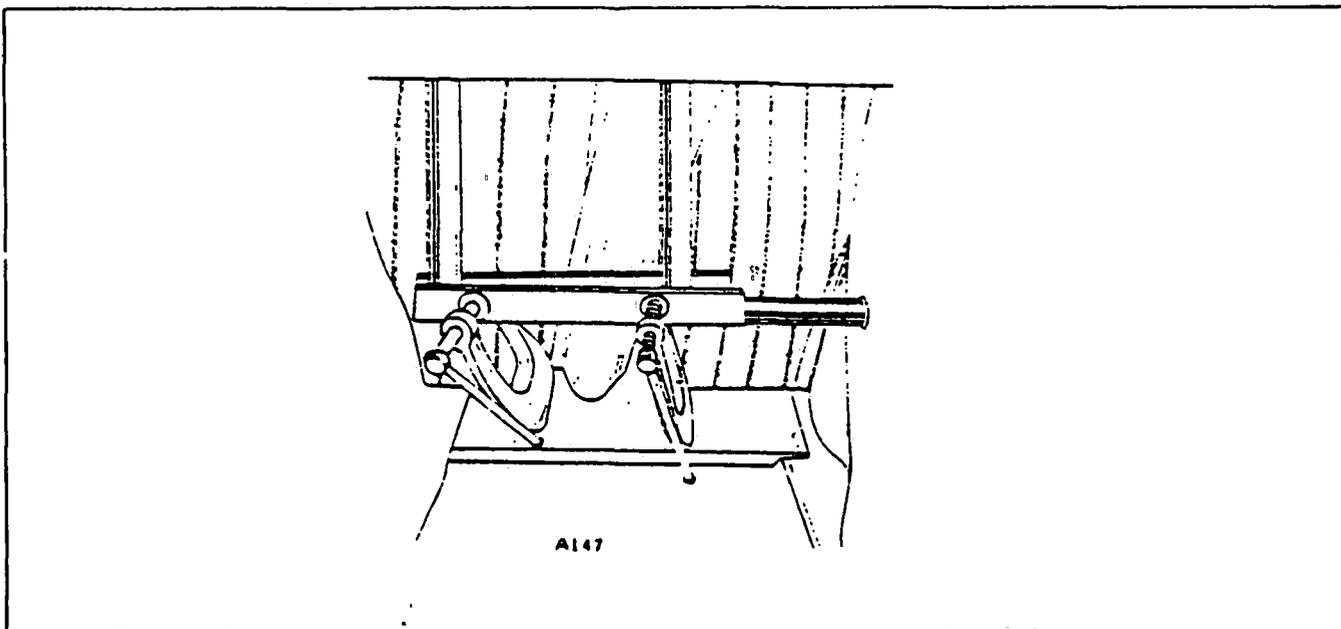

Figure 5-11. Claming Rudder Pedals In Neutral Position
2. Clamp the rudder pedals to align in a lateral position as shown in Figure 5-11.